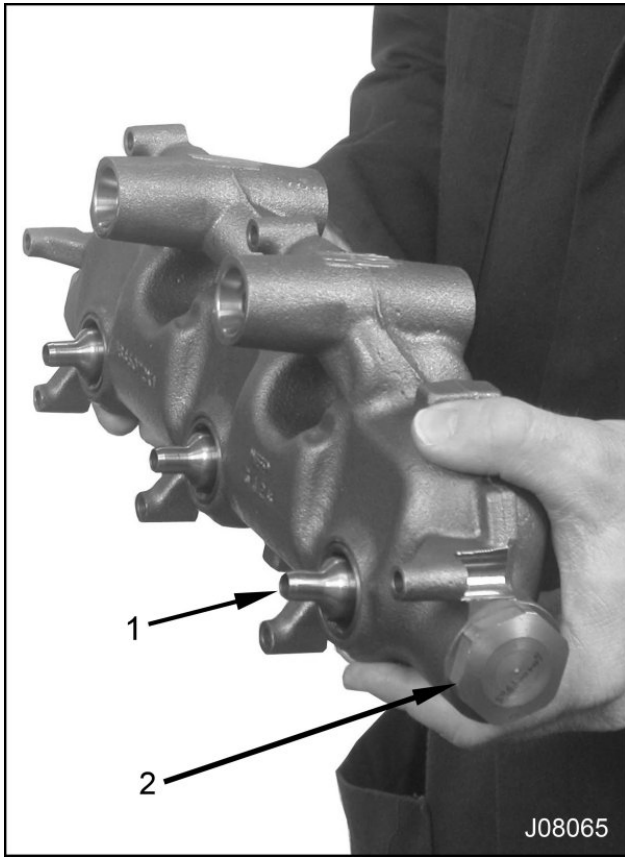

Figure 10 Non-serviceable oil rail components
21. Lift oil rail assembly straight away from injectors and case-to-head tube assembly. Allow oil to drain back to the sump or other suitable container (Figure 10). Go to Step 17 to remove broken case-to-head tube assembly components.